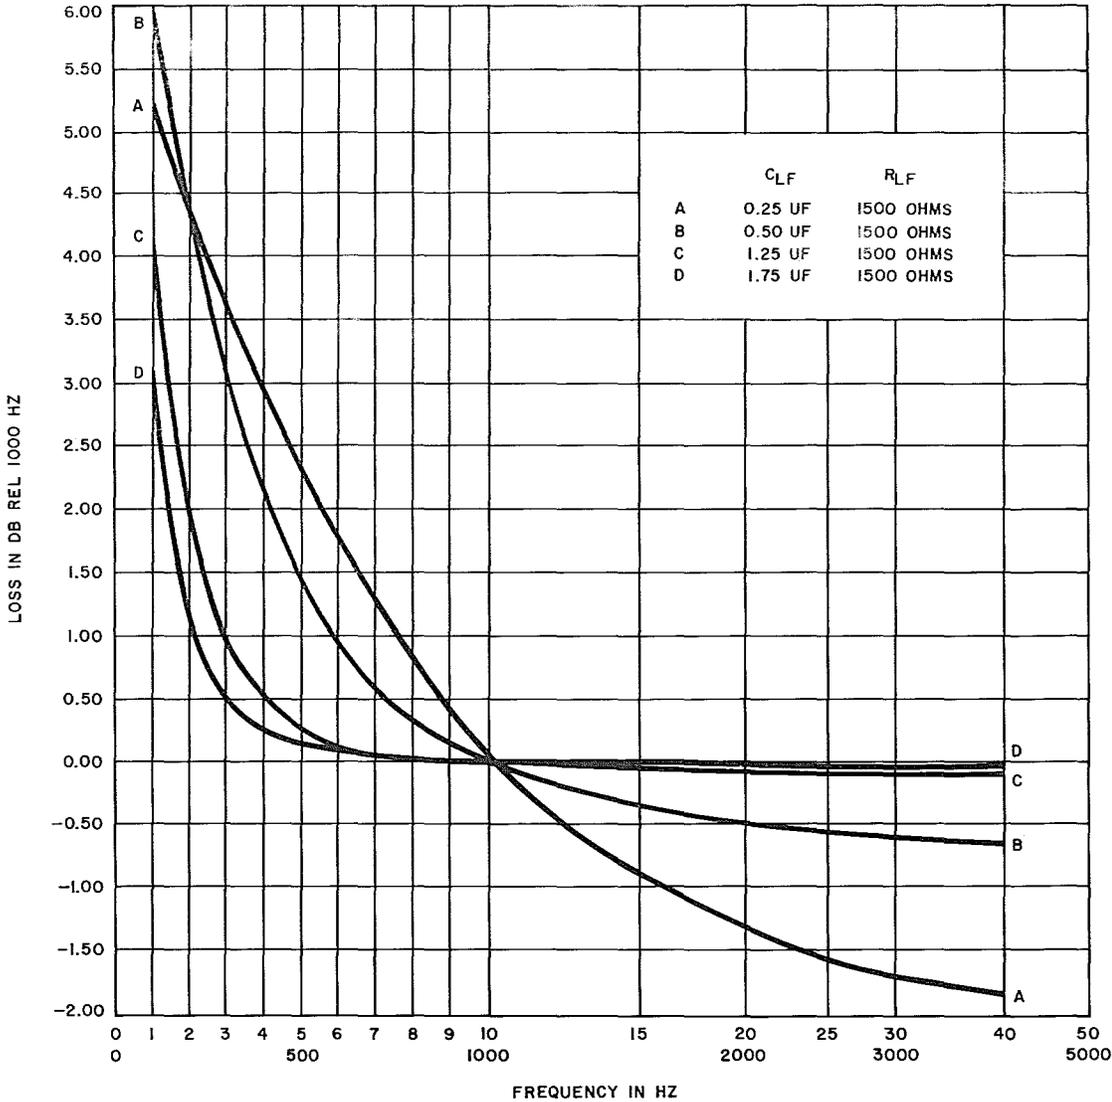

Fig. 5—359D Equalizer, Low-Frequency Section—Loss-Frequency Characteristics—Between 600-Ohm Impedances—Varying C_{LF} for R_{LF} Constant at 1500 Ohms
1.02 This section is reissued to include information on 25-gauge metropolitan area trunk (MAT) cable, to correct Fig. 5, and to include information previously covered in an addendum. Arrows normally used to indicate changes are not used due to the extensive revision.
results of keeping C_{LF} constant at $0.25 \mu F$ and varying R_{LF} with the HF section out of the circuit; Fig. 5 shows the results of keeping R_{LF} constant at 1500 ohms and varying C_{LF} with the HF section out of the circuit.